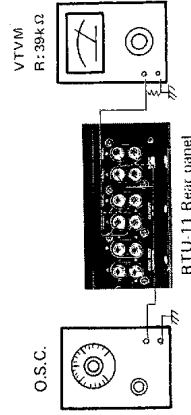

Fig. 32
21.9 OVERALL FREQUENCY RESPONSE CHECK (Fig. 32)